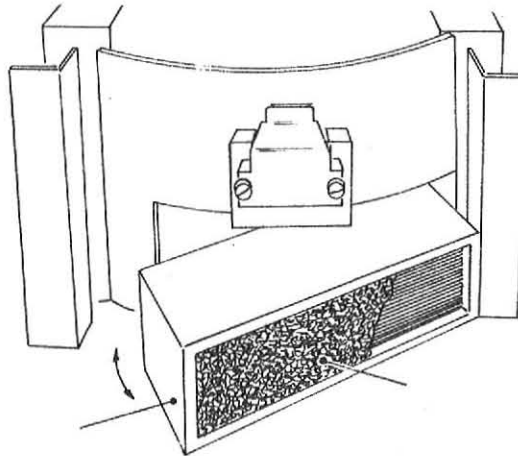

Figure 7-29 FILTERS
5.2.1 Fine filter (figure 7-29)